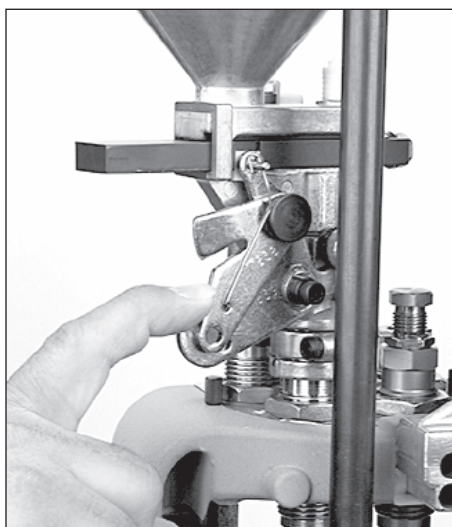

FIG 101
1. Using your forefinger, move the lock-link down to align the hole with the slot on the Powder Measure bellcrank FIG 101.